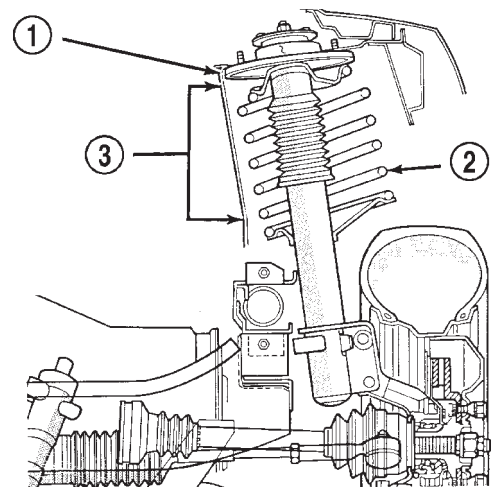

Fig. 2 Shock Tower Area (Typical)
- Inspect the clearance between the shock tower and the coil spring. Make sure no fasteners are protruding through the shock tower possibly contacting the coil spring and strut. Because of the minimum clearance in this area (Fig. 2), installation of metal fasteners could damage the coil spring coating and lead to a corrosion failure of the spring.
CAUTION: At no time when servicing a vehicle can a sheet metal screw, bolt or other metal fastener be installed into the shock tower to take the place of an original plastic clip. Also, do not drill holes into the front shock tower for the installation of any metal fasteners into the shock tower area indicated (Fig. 2).